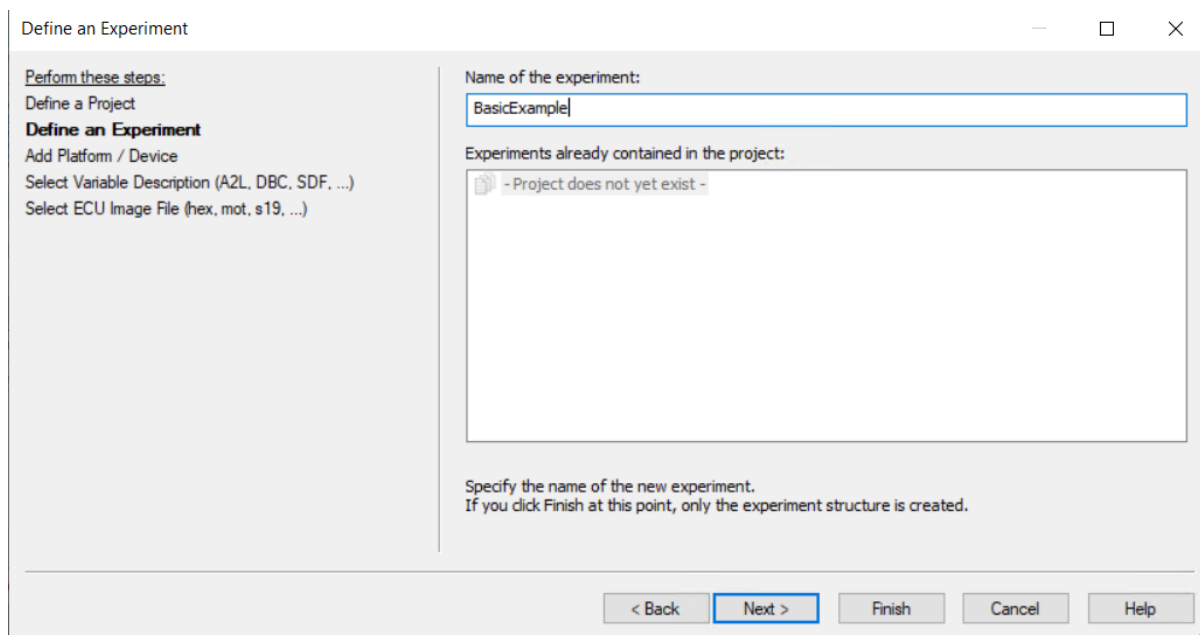

Figure 12.77: Name your experiment.
- 3) Name the experiment to execute (see Figure 12.77).